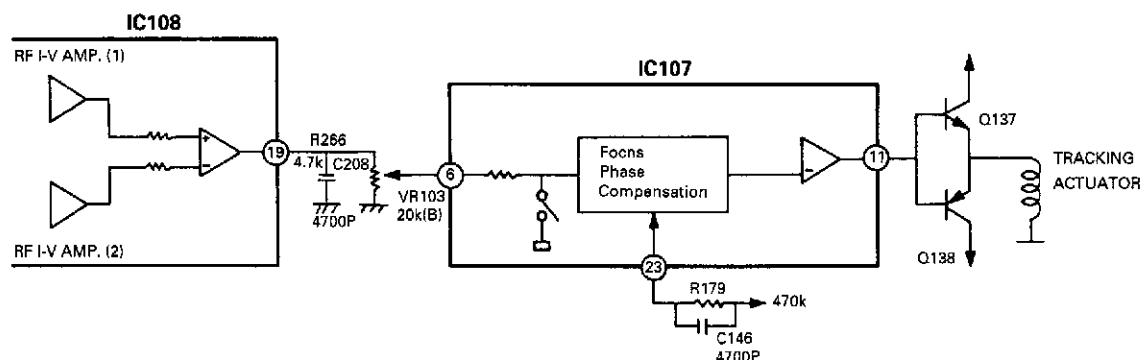

Fig. 4
2. Remove the bottom cover (Figure 4).
The output voltage (focus error signal) from pin 19 of IC108 passes through IC107, in from pin 6 and out from pin 11, as shown in Fig. 4. It is amplified in IC107 and fed to the focus coil which then drives the objective lens of the pickup.